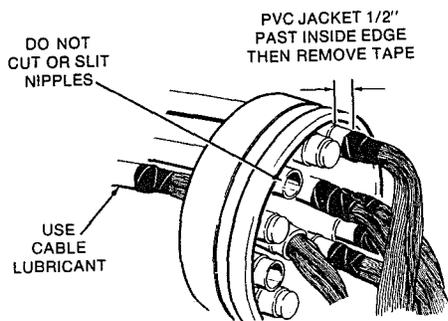

Figure 9.
4.14 Starting at the back of the end cap, insert the tip cable into an individual opening of the multiple end cap shown in Figure 9.